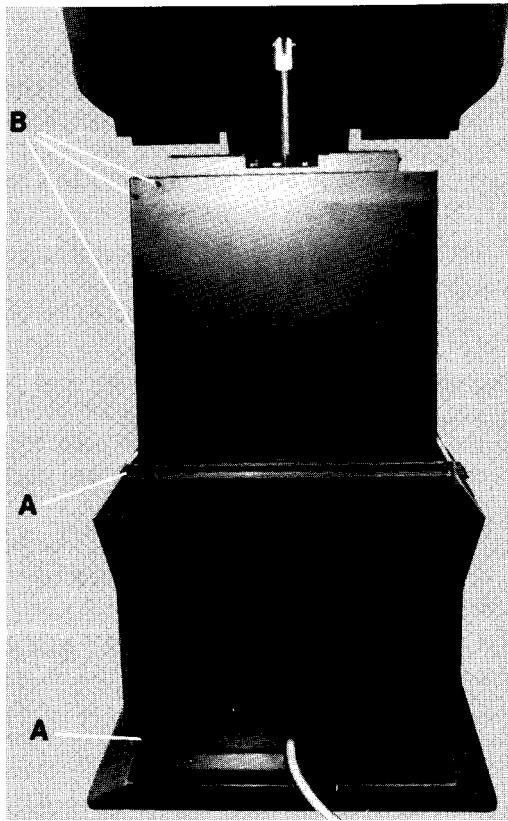

Fig. 16
- 1) Remove front outer shroud by removing (4) #6-32 x 3/8" screws, Item A, Fig. 16. Lift shroud from foot switch cord.
- 2) Replace front outer shroud by placing shroud in position as shown in Fig. 16, aligning holes and installing (4) # 6-32 x 3/8" screws, Item A, Fig. 16.
- 1) Remove front inner shroud by removing (8) screws, Item B, Fig. 16.
- 2) Replace front inner shroud by placing shroud in position as shown in Fig. 16, aligning holes, and installing (8) # 6 x 3/8" screws, Item B, Fig. 16.